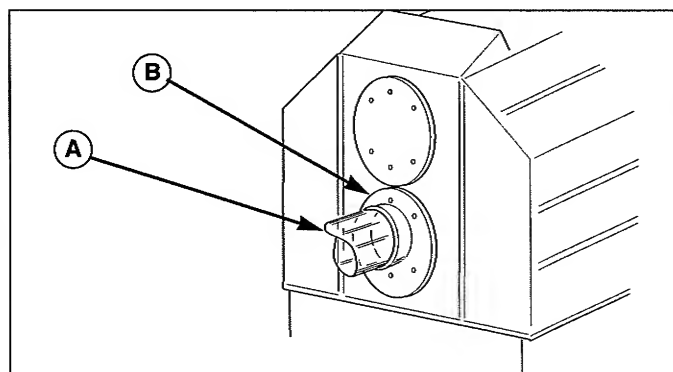

Figure 9. Connect to Adapter Plate
3. Insert the tube (A, Figure 9) into the adapter plate (B).
1. Remove the short clear tube (A, Figure 9) from the adapter plate (B).